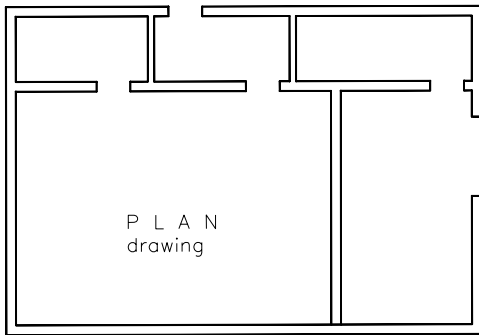
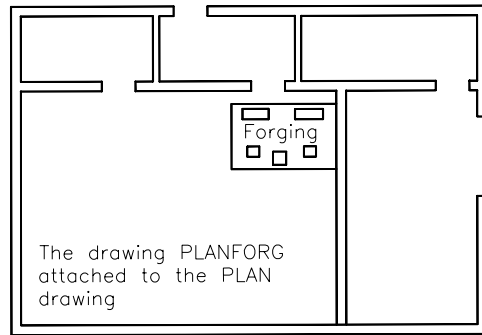

Figure 18-19 The PLAN drawing
Figure 18-20 The PLAN drawing after attaching the PLANFORG drawing
- Open the drawing file PLAN (Figure 18-19), and select the **Attachment** radio button in the **Attach External Reference** dialog box, which is displayed when you have selected the PLANFORG drawing in the **Select Reference File** dialog box to attach as an xref to the PLAN drawing. You will notice that only the PLANFORG drawing is attached (Figure 18-20). The drawing that was overlaid in the PLANFORG drawing (PLAN) does not appear in the current drawing. This way, the CAD operator working on the PLANFORG drawing can overlay the PLAN drawing, and the CAD operator working on the PLAN drawing can attach the PLANFORG drawing, without causing a circular reference.